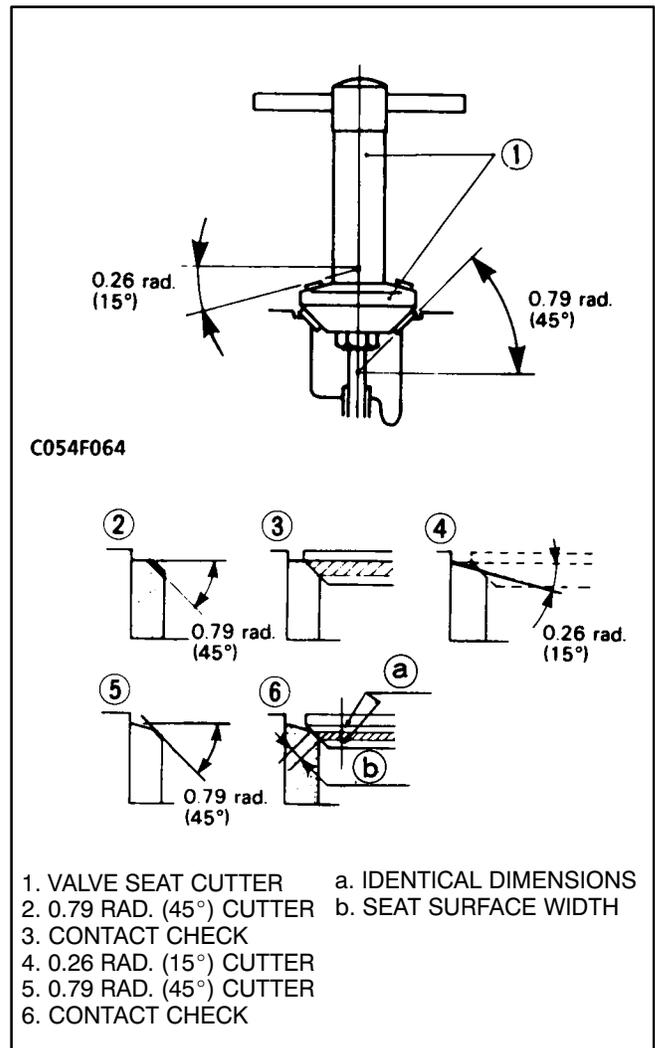

FIGURE 9-10. REGRINDING VALVE SEAT
2. Use a vernier caliper to measure the valve seat width (Figure 9-10). (See *Dimensions and Clearances*, Section 3, for seat width allowable limit.)
1. Grind the valve seat surface with a 45° cutter. Use a cutter appropriate for the valve seat surface and valve guide diameter (Figure 9-10).